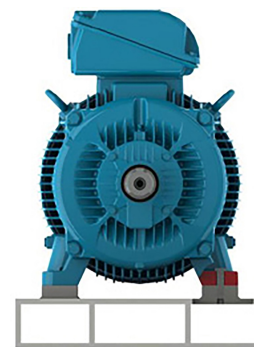

Figure 6.4: Motor installed on a metallic base
- Metallic bases: are generally used for small-size motors (see Figure 6.4 on page 37).